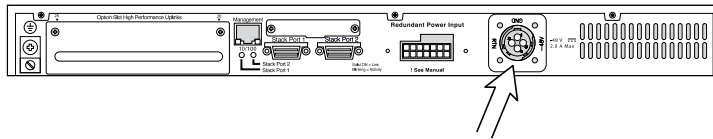

Figure 261: DC Power Socket on a DC-Powered Switch (Summit X450a Shown)
1. Plug the DC wiring harness connector into the DC power supply socket on the rear of the switch (see Figure 261).